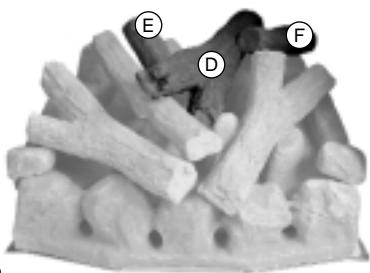

Fig. 42
6. Place the next logs on the coal bed, again ensuring they are placed in alphabetical order (Fig. 42).